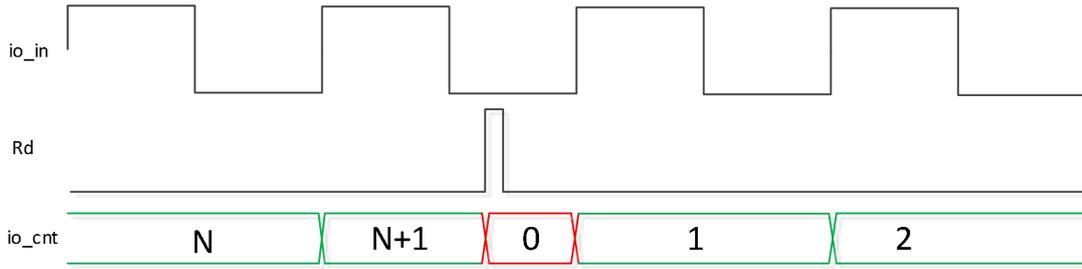
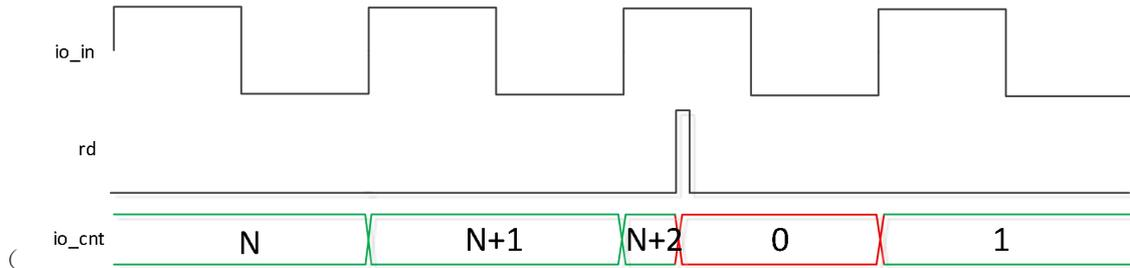

Figure 9 Zero operation before io edge(rising edge counting)...
Figure 10 Zero operation after io edge (rising edge counting)
- When a read operation arrives before or after an input signal edge change, the current sub-edge accumulates to the next `io_cnt`, as shown in Figure 9, Figure 10.